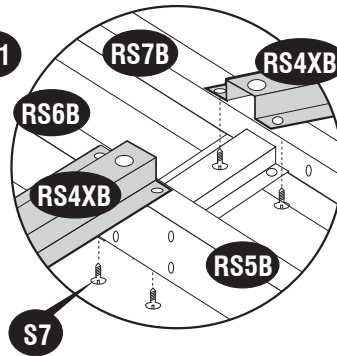
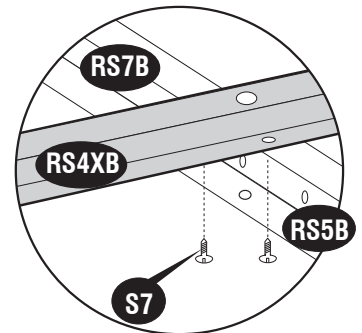

fig.3
fig.4
25. Attach the **roof structures (RS4B)** one end to **roof structure (RS3SB)** with **(S1)** screws. see fig. 1 & 2. Fix the other end to **roof structure (RS6B) & (RS7B)** with **(S1)** screws see fig. 3. Fix the middle portion to **(RS6B) & (RS7B)** roof structure with **(S1)** screws see fig. 4.